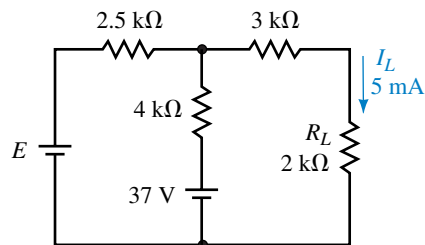

FIGURE 9-79
5. Given the circuit of Figure 9-79, what must be the value of the unknown voltage source to ensure that the current through the load is $I_L = 5$ mA as shown. Verify the results using superposition.